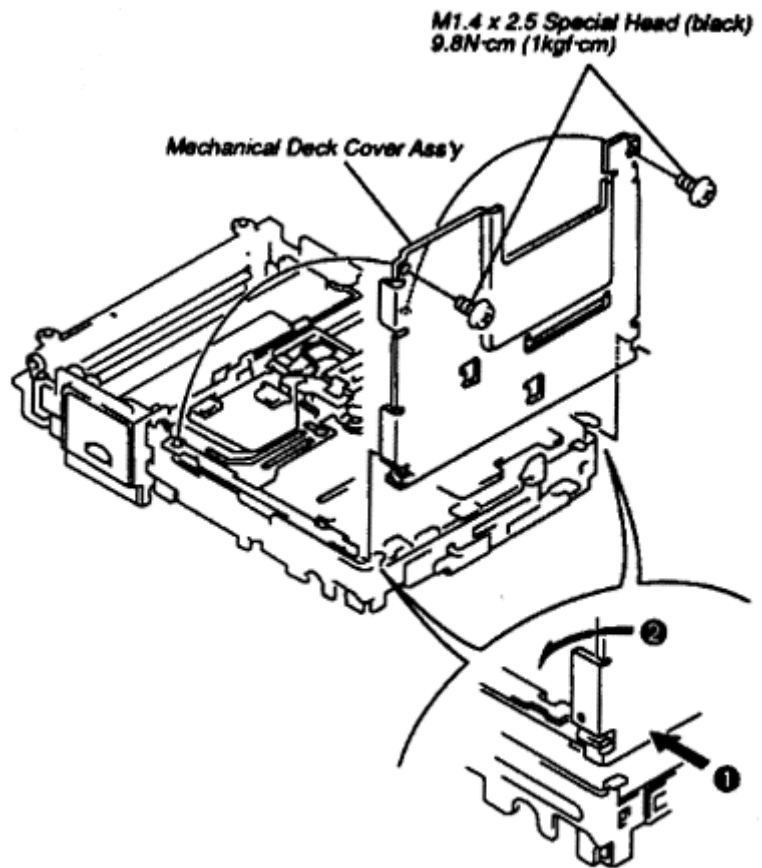

Fig. 4-6 Mech Deck Cover Ass'y Replacement
- a. Remove the two screws (M1.4x2.5 Special Head/black) securing the Mech Deck Cover Ass'y and then stand up the Mech Deck Cover Ass'y vertically and pull it forward toward you. (Refer to Fig. 4-6)